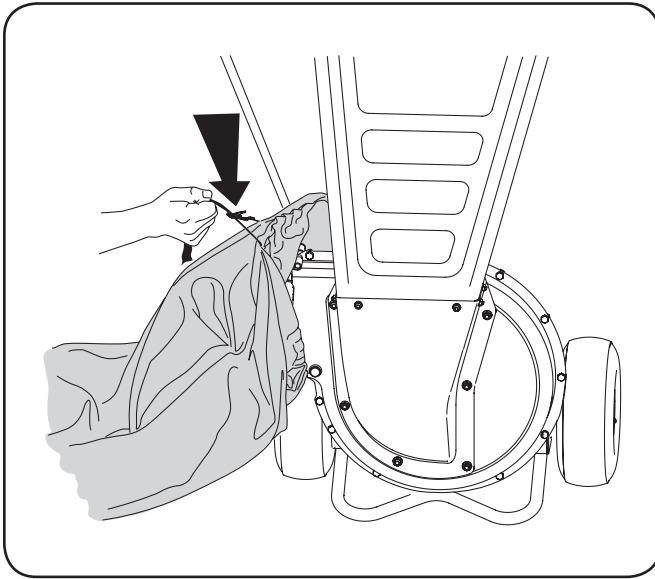

Figure 5-1
2. Squeeze the locking buckle to release the bag's draw-strap before loosening it from the chute deflector. See Figure 5-1.